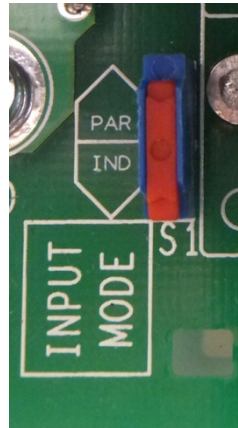

Figure 3-13: S1 Switch in IND position (independent mode)
**If a daisy chain connection is required for AFD installed inverters use standard multiconductor RS-485 cable and connect the three RS-485 leads (-RTN, +T/R, -T/R) using only the mating connector in Figure 3-13. Do not connect pin 4 of RJ45 connector in any case with AFD installed inverters.**